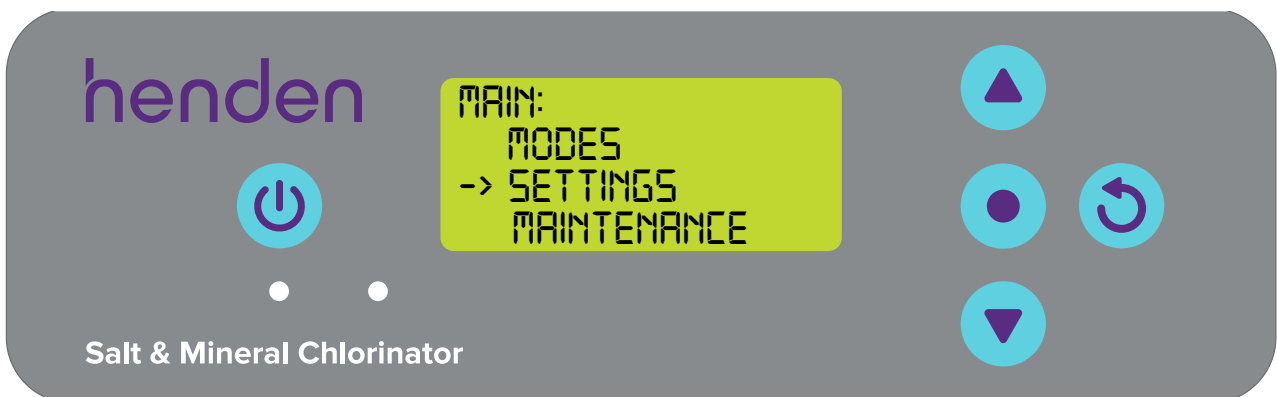

Figure 8.19
- Press the  **menu up/down**, scrolling down to settings (refer figure 8.19)